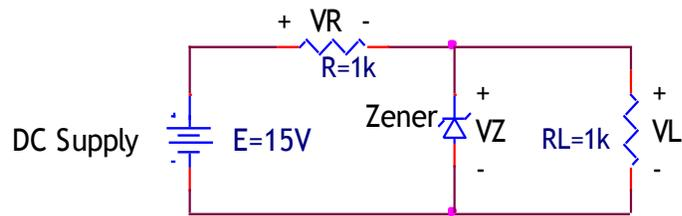

*Fig. 2.1*
1. Construct the circuit of *Fig. 2.1*. Set the DC supply to 0 V and record the measured value of  $R$ .